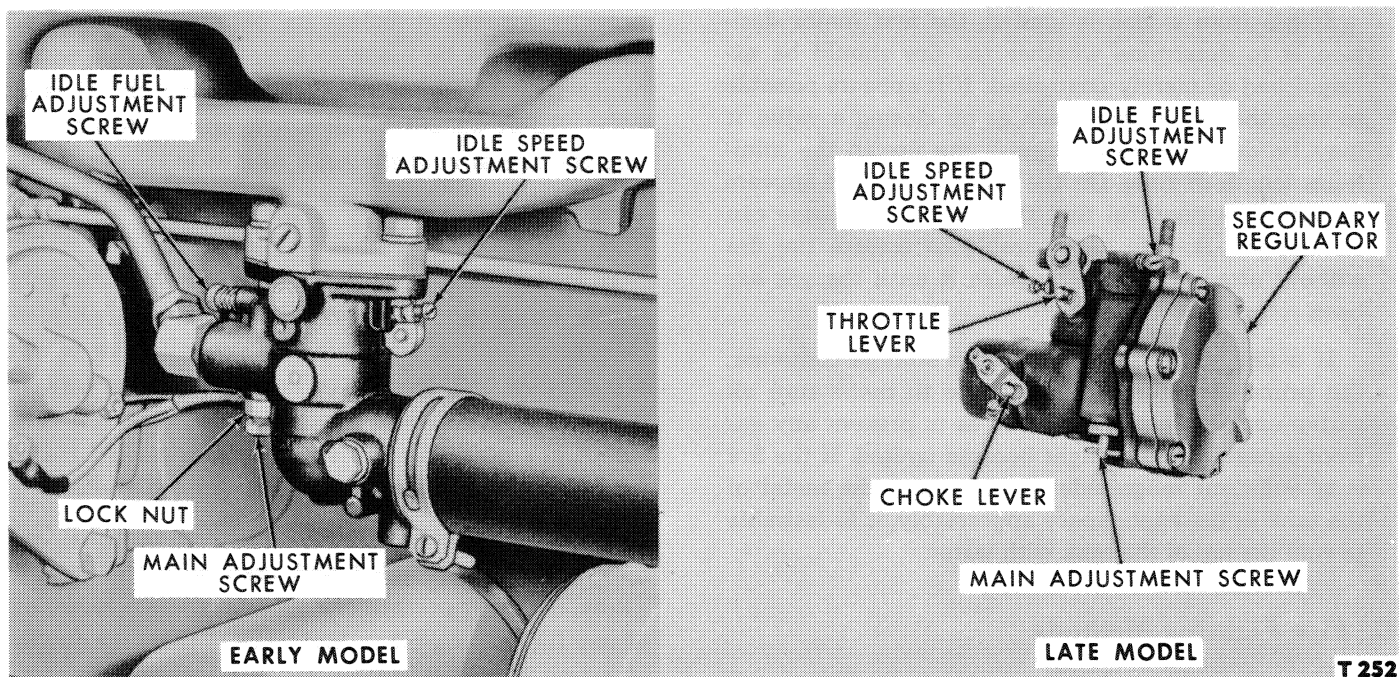

Figure 4—Carburetor Adjustments
The same type adjustments are provided for LP-Gas carburetors as used for adjusting gasoline carburetors. Figure 4 shows the adjustment locations on both the early and late type carburetors. The main
3. To obtain the initial main adjustment setting, back off the lock nut, Figure 4, (early carbure-